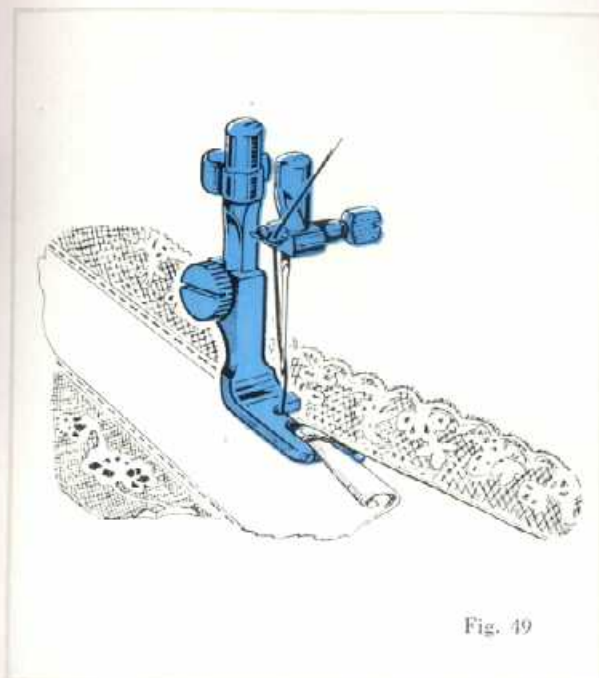

Fig. 49
12. HEMMING AND SEWING ON LACE (Fig. 49)
Raise hemmer foot, insert end of lace into the slot on side of hemmer foot, as shown in Fig. 49, and pass it underneath the hemmer foot to the rear.